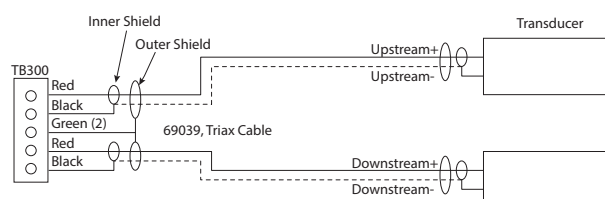

Figure 25: Upstream/downstream transducer
4. The terminals within the transmitter are screw-down barrier terminals. Connect the wires at the corresponding screw terminals in the transmitter. Observe upstream and downstream orientation and wire polarity. See Figure 25.